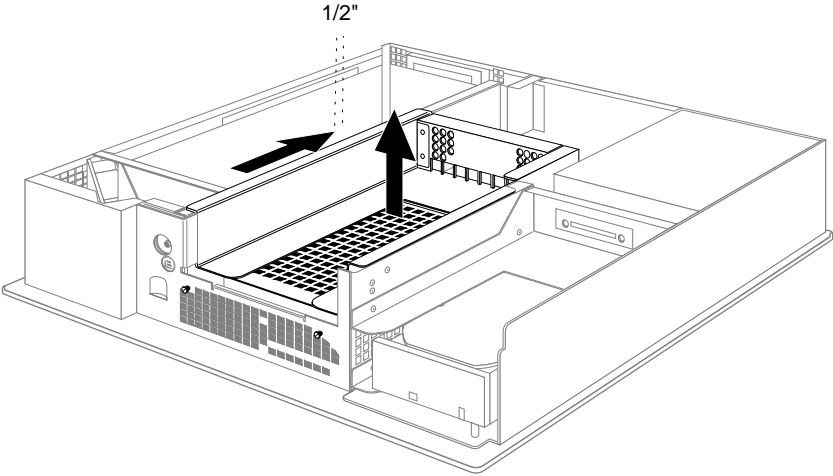

Figure 3-14 Removing the 5-1/4" Drive Tray From the Indigo² Chassis
- 4. Push the drive tray assembly backward, and pull up to remove it, as shown in Figure 3-14.